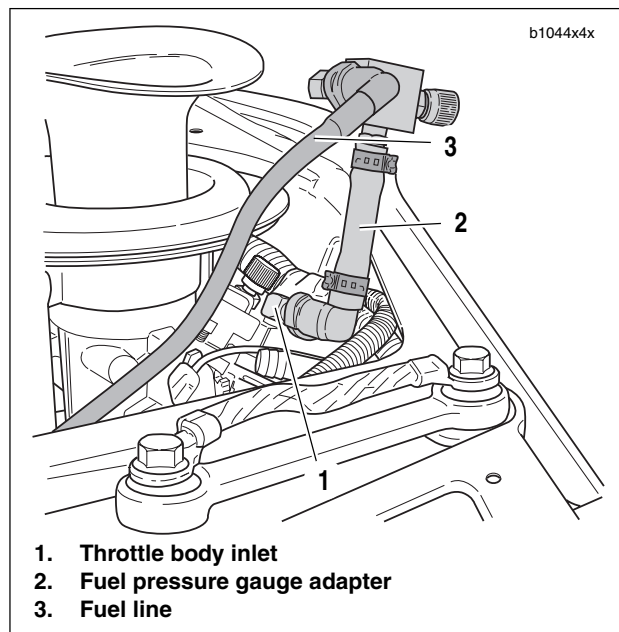

Figure 4-24. Fuel Pressure Gauge Adapter
4. See Figure 4-24. Attach FUEL PRESSURE GAUGE ADAPTER (Part No. B-45522) (2) to throttle body inlet (1).
5. Connect the fuel line (3) to fuel pressure gauge adapter.